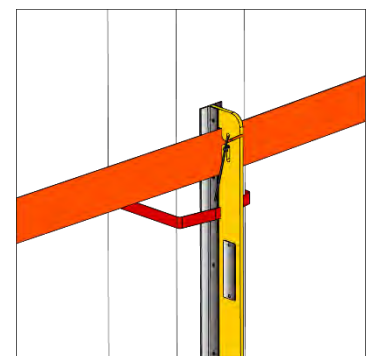

Figure 71
- Figure 71 illustrates the use of a zip tie instead of a padlock. Use a zip tie to trap the top rail strap so that it cannot escape the column post. Use zip ties with a minimum breaking strength of 100 lb.